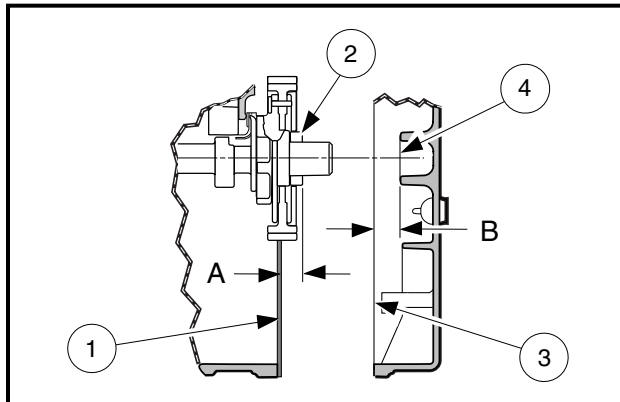

Figure 18-95 Measurements to be Recorded for Camshaft Shim Table
1. With the gasket (1) installed on the crankcase, measure from the gasket surface to the camgear surface (2). Record this measurement (A) (**Figure 18-95, Page 18-44**).
2. Measure from the crankcase cover (3) mounting face to the camshaft bearing inner end (4). Record this measurement (B).